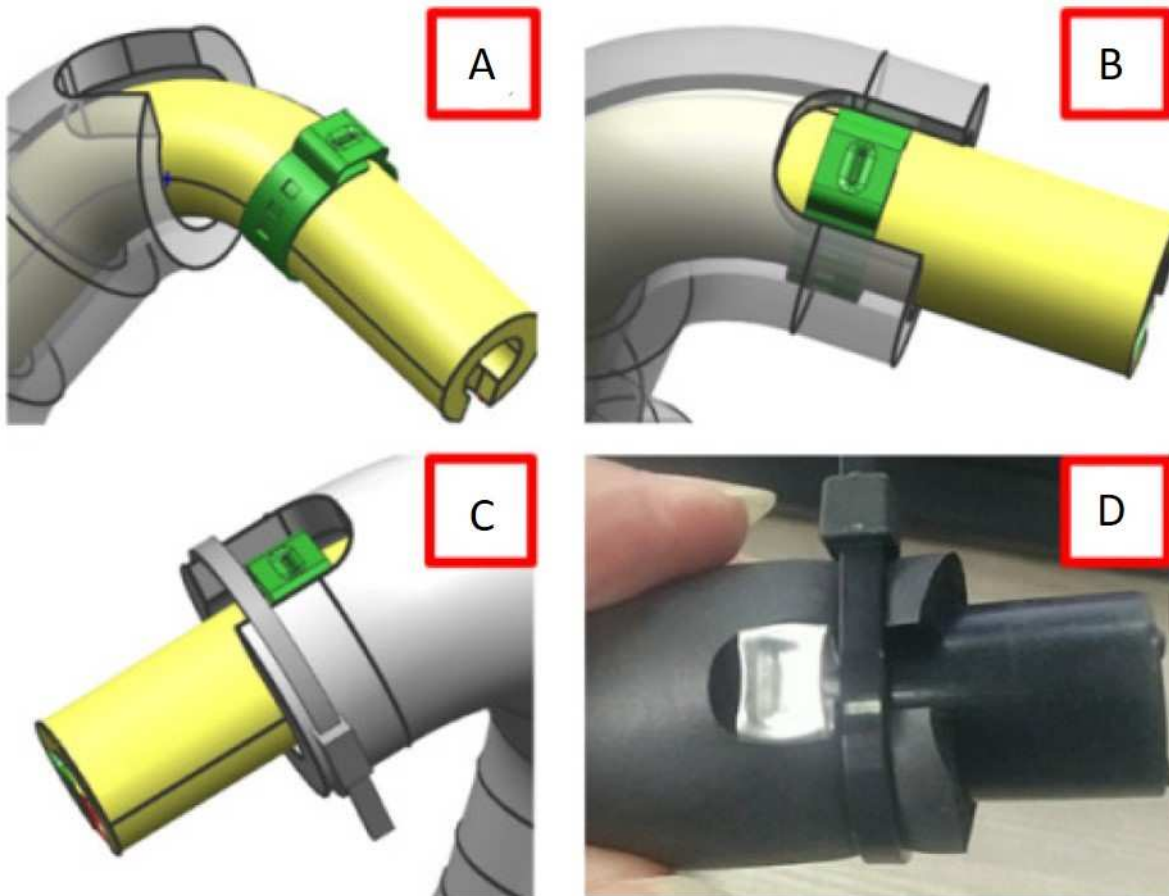

Fig. 4
8. Perform the steps shown in the boxes below in sequence (Fig. 4) :